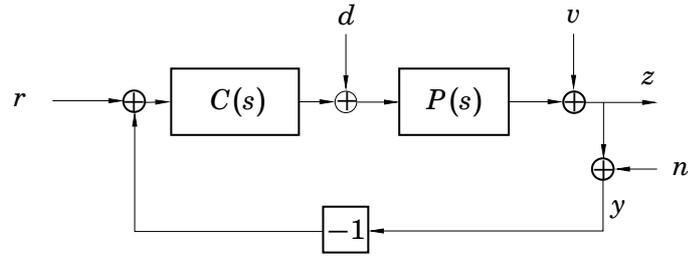

Figure 2.3 System in Problem 2.5
2.5 Study the feedback control system in Figure 2.3, where the process,  $P(s)$ , is given by